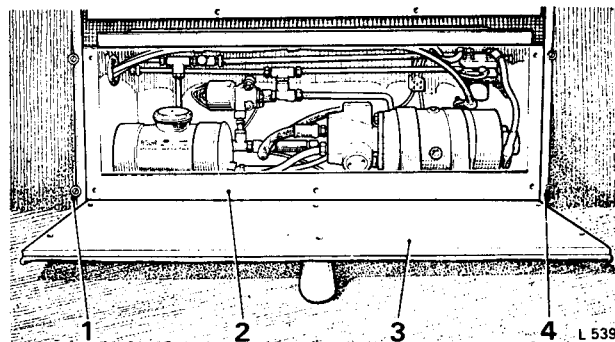

FIG. S70 ACCESS TO THE POWER PACK UNIT
The source of the power is an electric motor connected to the car battery and driving a hydraulic pump operating through solenoid valves. This equipment together with the hydraulic fluid reservoir, is situated behind a trim panel between the rear spring housings in the forward section of the luggage compartment (*see Fig. S70*).
3. Remove the six screws securing the centre trim panel in the forward section of the luggage compartment (see Fig. S70).